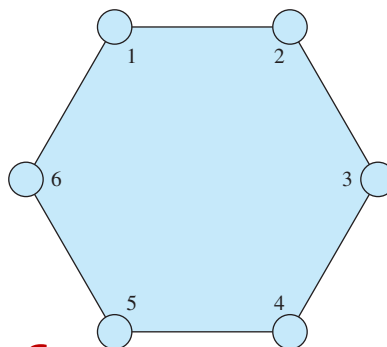

FIGURE P9.41 Symmetrical bundled conductors configuration.
- 9.41 (A)** Assume a set of bundled conductors is configured as shown in Figure P9.41. Each subconductor's radius is 10 cm, and the distance between neighboring conductors is 2 m (the length of each of the hexagon's sides). Calculate the equivalent radius of the bundled conductors.